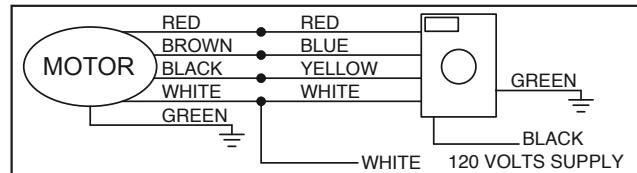

Figure 5
6. Slide the lower canopy (C) to allow a 1/4" minimum height above the motor.
7. Attach the three blades, curved side down to the motor with the insulation pad mounted between the blade and the motor (See Figure 5). Make sure blade holder is flat against motor platform when tightening blade nuts for secure fit.